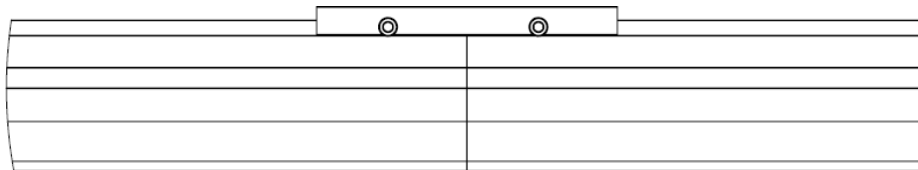

Figure 20: ***Track Sections Butted Together With No Gap***
- Make sure there is no gap between the track sections (Figure 20).